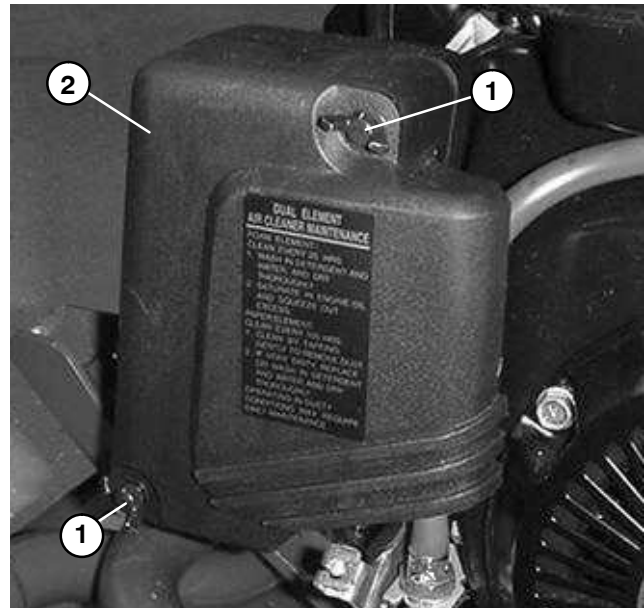

Figure 6
2. Remove wing nuts that secure the air cleaner cover and remove cover. Clean cover thoroughly (Fig. 6).